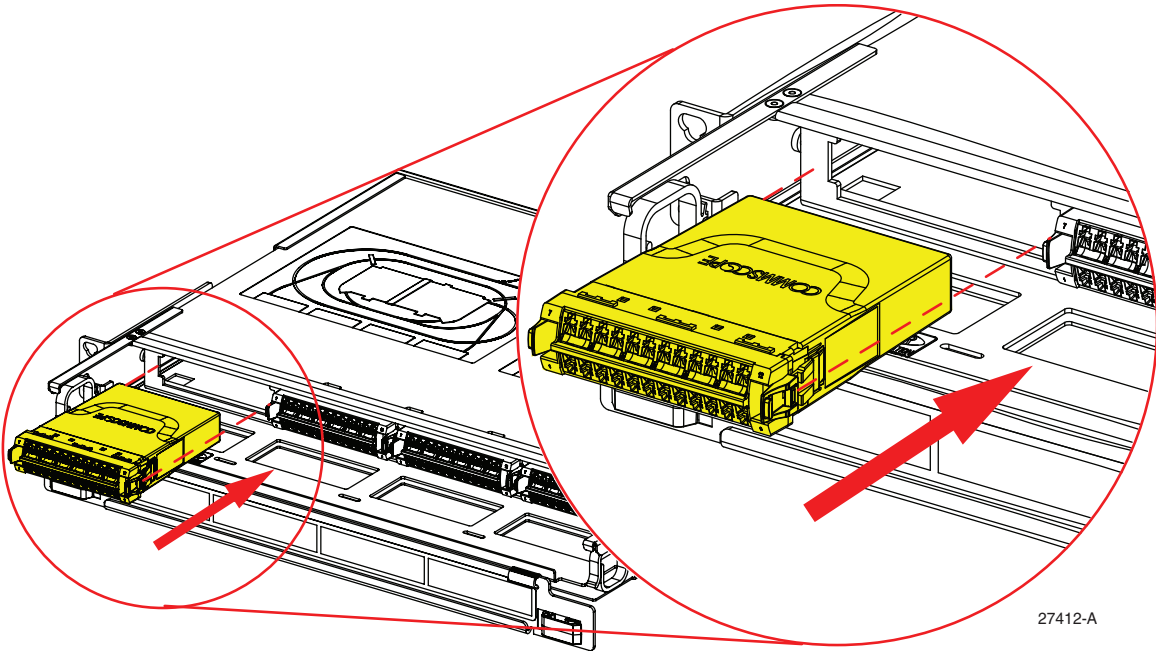
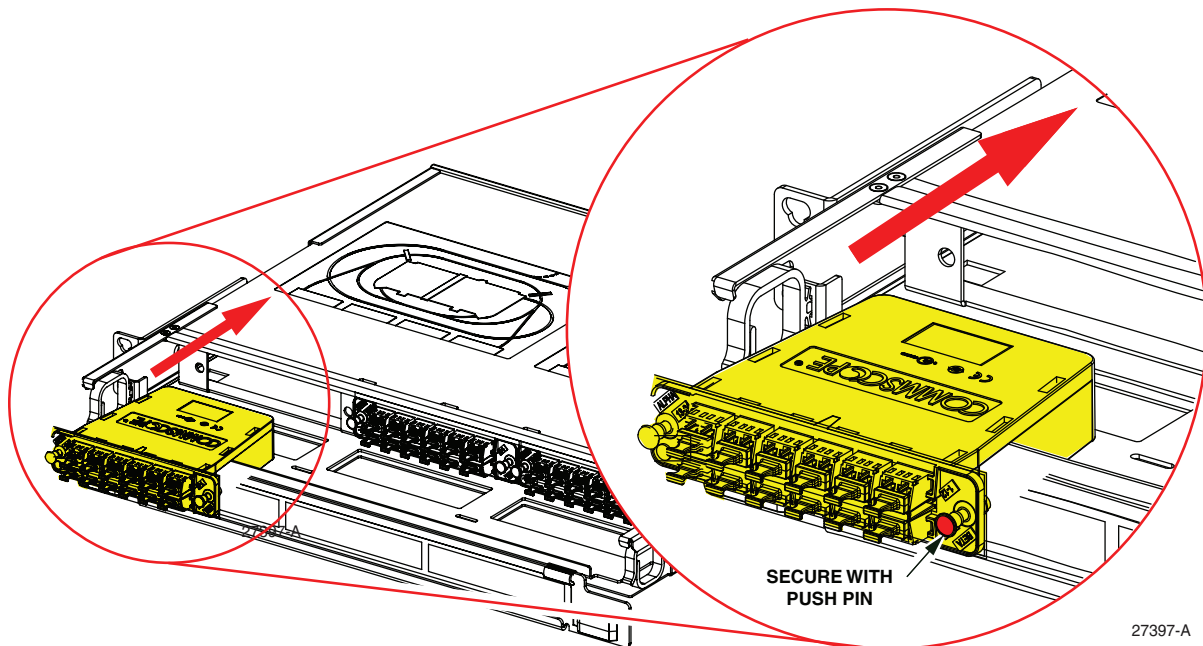

Figure 13. Installing MPO Modules (G2)
Figure 14. Installing MPO Modules (LSX/1000)
1. Align the MPO module with the selected location in the bulkhead. Push in and secure with push in pin if present (LGX/1000 only). Refer to Figure 13 and Figure 14.